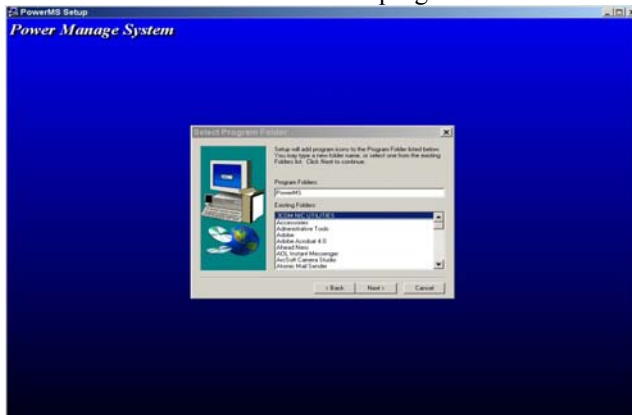

Fig. 3-6 The Program Folder window
3.1.6 Fig. 3-6 displays a list of existing program folders and the default program folder named “ARRAY/ELECTRONIC” where the program will be installed.